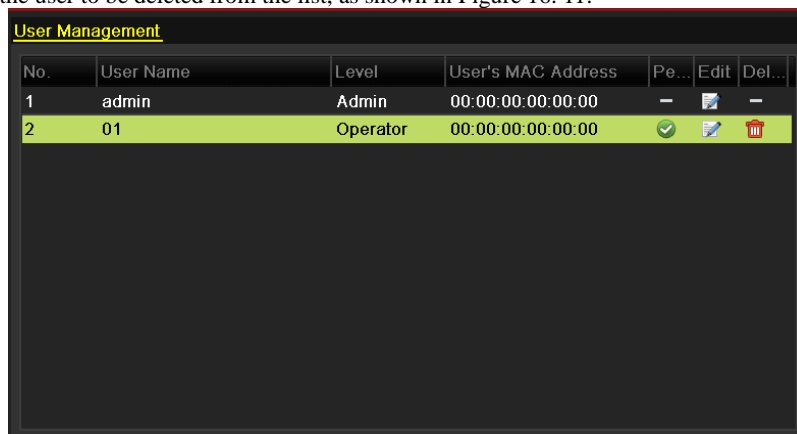

Figure 16. 11 User List
2. Select the user to be deleted from the list, as shown in Figure 16. 11.